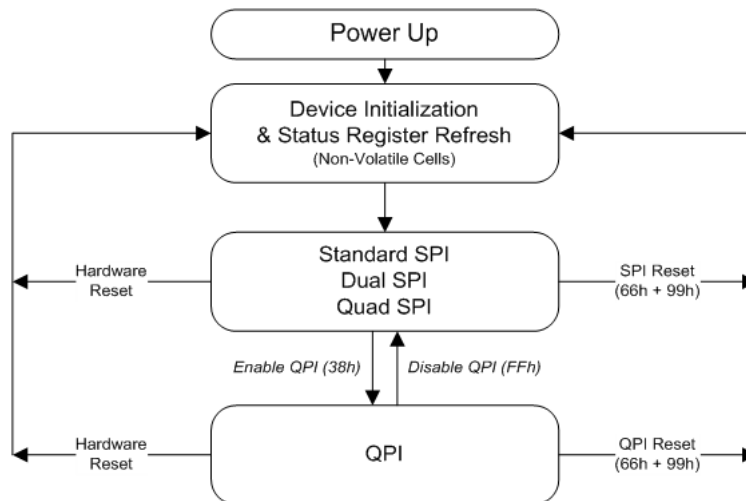

Figure 7: SPI Mode Operation Diagram
Upon power-up or after a software reset using the Reset (99h) instruction (see Section 7.8.14), the default state of the device is Standard/Dual/Quad SPI mode. To enable QPI mode, the non-volatile Quad Enable bit (QE) in Status Register-2 is required to be set. When using QPI instructions, the DI and DO pins become bidirectional IO0 and IO1, and the /WP and /HOLD pins become IO2 and IO3 respectively. See Figure 7 for the device operation modes.